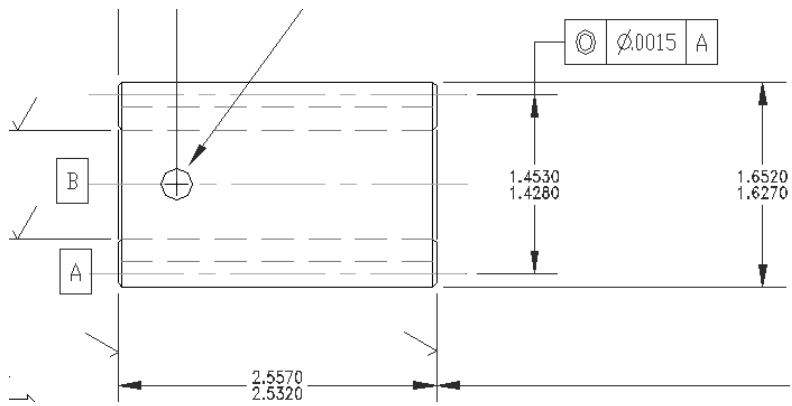

**Figure 15-31:** Limits dimensions.
- ♦ **Limits** dimensions include the upper and lower dimensions in the measurement, as shown in Figure 15-31. Use the Upper Value and Lower Value text boxes to type in the upper and lower tolerance amounts.